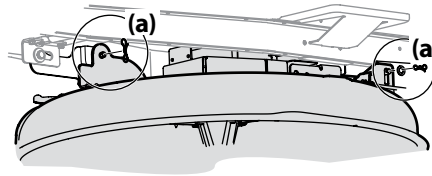

Figure 4-10
5. Remove the remaining bow-tie cotter pins (a) securing the deck to the riding mower, as shown in Figure 4-10.